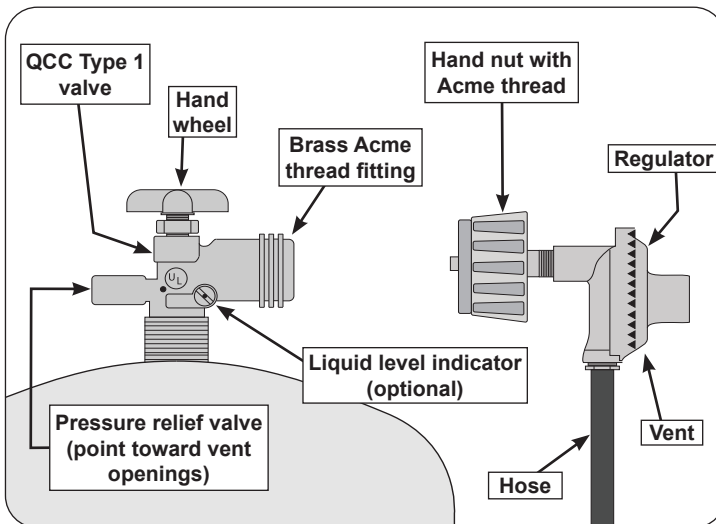

Fig. 7-1 Type I Acme thread coupler
- When used with a cylinder, the gas supply system must be used with a pressure regulator. The pressure regulator and hose assembly (**not supplied**) used must match the specification for Type I by ANSI Z 21.58/CGA 1.6 and must comply with UL 144 as a part of the self-contained LP gas supply system (see Fig. 7-1).
To disconnect: Turn the hand nut counterclockwise until detached (Fig. 7-1).